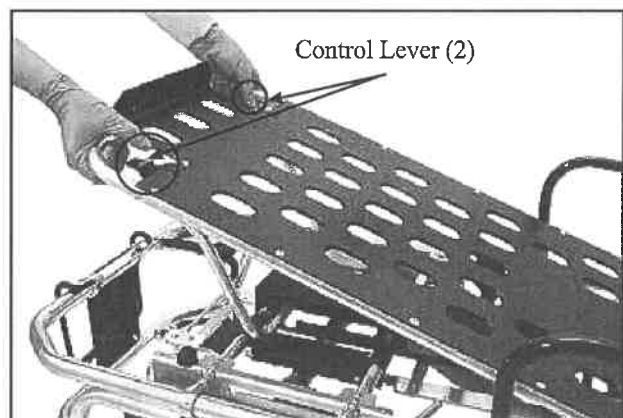

Figure 13 - Lowering the Shock Frame
- **To lower,** stand at the foot end of the cot. Lift the shock frame a little to support the weight, then press the shock frame control levers (Figure 13) and lower the shock frame.